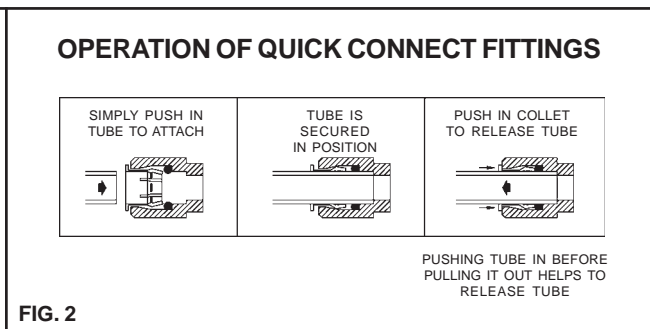

FIG. 2
- 5. Remove bottom access panel** from fountain basin and save the screws. Install the fountain to the back panel and wall using (4) 5/16 " x 3/4" long bolts and washers (provided) thru holes in back panel. Washer used on bottom two (2) holes only. Tighten securely.
- 7. Make water supply connections** from service stop to the fountain strainer. Insert the water inlet line into the inlet side of strainer until it reaches a positive stop - about 3/4" (See Fig. 2). Turn on water supply and check for leaks. Newly installed water supply line should be insulated after leak check is completed. **DO NOT SOLDER TUBES INSERTED INTO THE STRAINER AS DAMAGE TO THE O-RINGS MAY RESULT.**